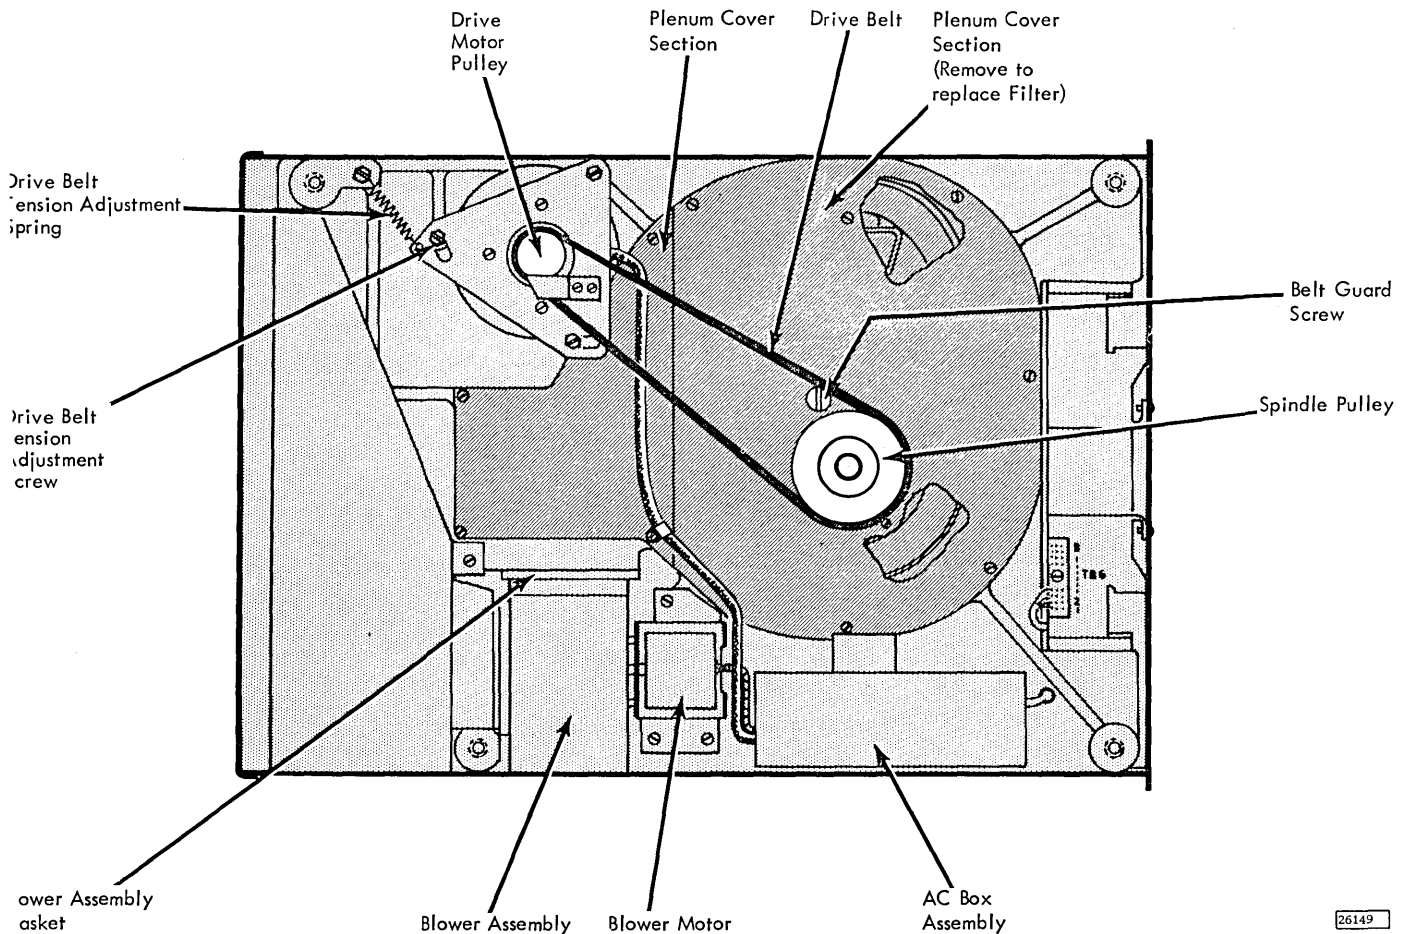

Figure 7-2. Single Disk Storage, Bottom View of Machine
2. Remove eight mounting screws (Figure 7-2) securing plenum cover to baseplate. One of these screws secure the belt guard to plenum cover.
7.4.1 Blower Assembly Removal and Replacement (Figure 7-2)